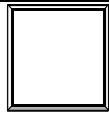

FIGURE 2
- 1.1.6 Remove the Vent Door Assembly from the fixture and using a 3/32" Allen Wrench install Flex Coupling, 03-925565-01 onto the stepped end of the vent door shaft as shown in Figure 2. Tighten coupling screw to 8-9 inch-lbs torque.